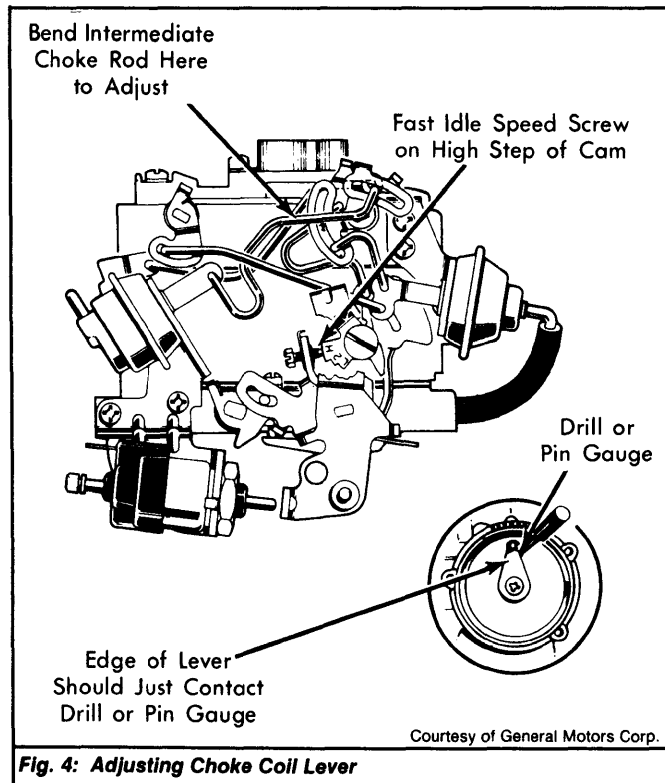

Fig. 4: Adjusting Choke Coil Lever
1) Remove choke thermostatic cover from choke housing. Place fast idle screw on high step of fast idle cam. See Fig. 4. Push in on intermediate choke lever until choke valve is fully closed.